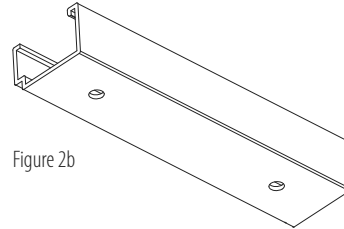

Figure 2b
- b. If not installed (Figure 2b) secure Quick Lock connectors into profile side installation rail with provided hardware. Ensure Quick Locks are in the same orientation as the STYX profiles will be positioned.